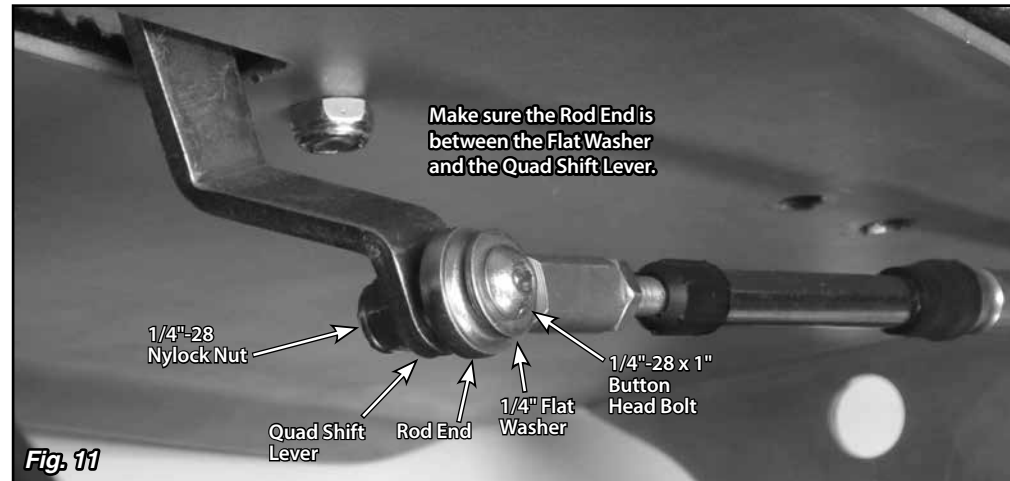

Fig. 11
Step 16: Route the cable up to the shifter and attach the other rod end to the quad shift lever using a 1/4"-28 x 1" button head bolt, flat washer, and nylock nut. **Fig. 11** The button head bolt can be installed from either direction, but make sure the rod end is sandwiched between the quad shift lever and the flat washer. When routing the cable, make sure that it is not touching the exhaust or any moving parts. The cable should be routed as smoothly as possible without any sharp bends.